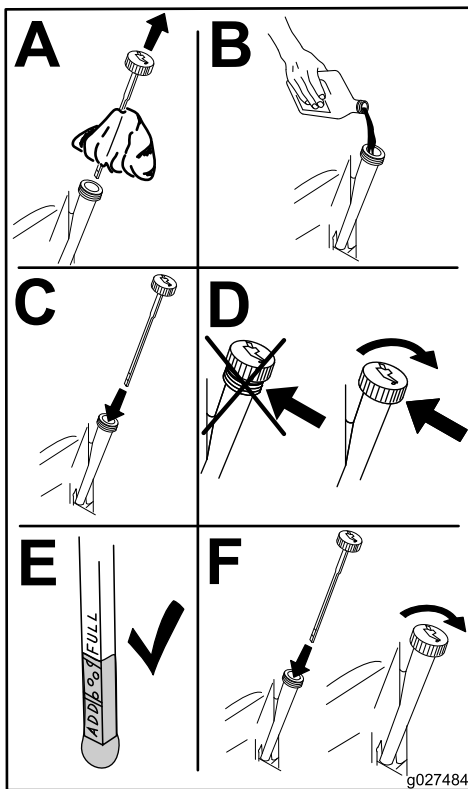

Figure 34
6. Slowly pour approximately 80% of the specified amount of oil into the fill hole (Figure 34).
7. Check the oil level (Figure 34).